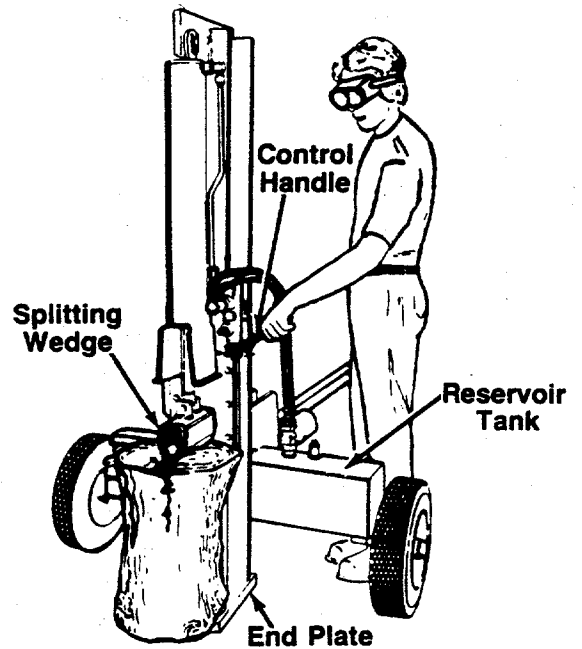

FIGURE 13.—Vertical Position
Use the log splitter only on a level, hard surface. Never stand next to the splitting wedge when operating the log splitter. Always stand behind the reservoir tank. See figures 13 and 14. Never attempt to cut a log in half sideways. Always split the log lengthwise. Maximum length of log to be split is 24".
- Step behind the reservoir tank** (see figures 13 or 14) and push the control handle in forward position until the log is split.